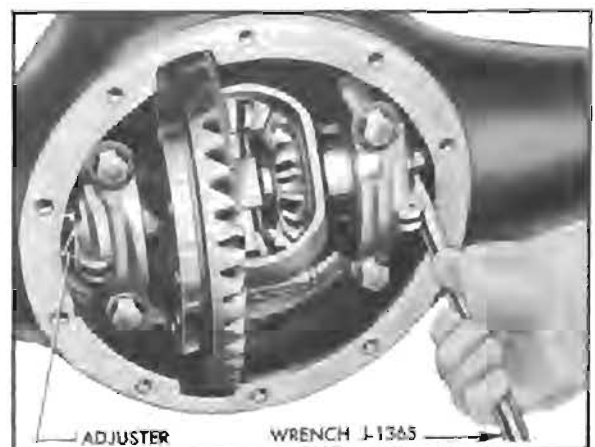

Figure 5-27—Adjusting Differential Bearings
4. Using Adjuster Wrench J 1365 (fig. 5-27) turn adjusters as required to set ring gear lash at approximately .008" to .012", with both adjusters in firm contact with bearings. **CAUTION:** Do not use punch and hammer to turn adjusters as adjusters will be distorted and